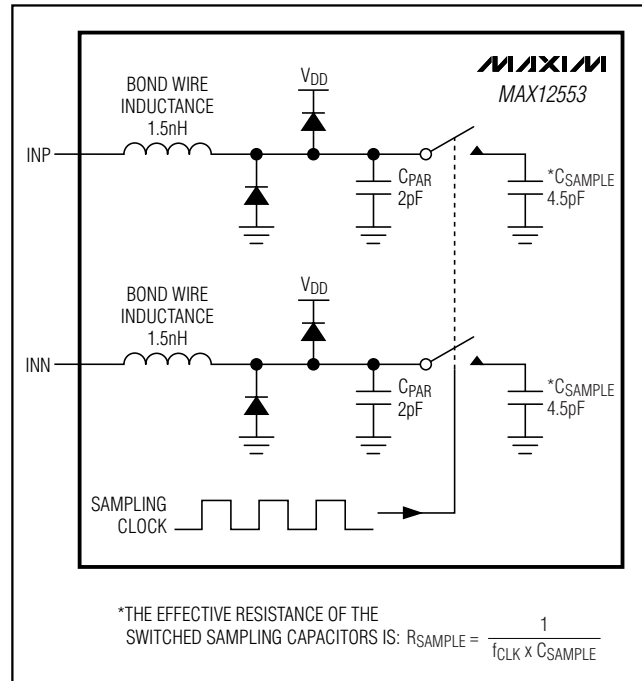
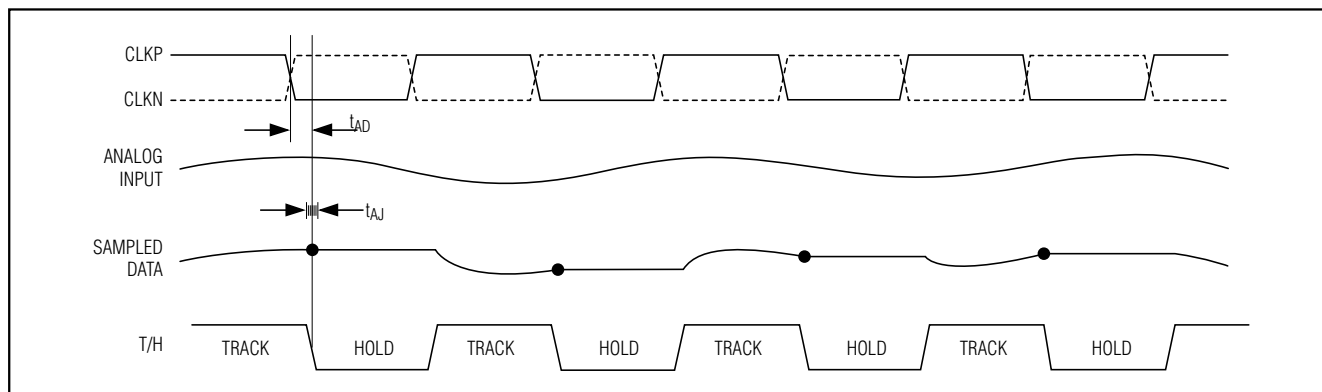

Figure 3. Simplified Input T/H Circuit
Figure 4. T/H Aperture Timing
Figure 3 displays a simplified functional diagram of the input T/H circuit. This input T/H circuit allows for high analog input frequencies of 175MHz and beyond and supports a common-mode input voltage of $V_{DD}/2 \pm 0.5V$.
The MAX12553 sampling clock controls the ADC's switched-capacitor T/H architecture (Figure 3) allowing the analog input signal to be stored as charge on the sampling capacitors. These switches are closed (track) when the sampling clock is high and open (hold) when the sampling clock is low (Figure 4). The analog input signal source must be capable of providing the dynamic current necessary to charge and discharge the sampling capacitors. To avoid signal degradation, these
- INP, INN analog inputs are disconnected from the internal input amplifier (Figure 3).